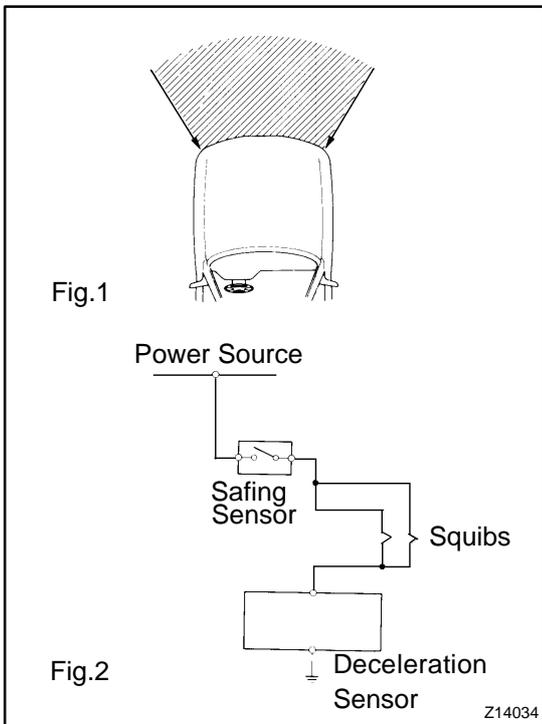

Fig.1
- (b) When the vehicle is involved in a frontal collision in the hatched area (Fig. 1) and the shock is larger than the predetermined level, the SRS is activated automatically. A safing sensor is designed to go on at a smaller deceleration rate than the airbag sensor. As illustrated in Fig. 2, ignition is caused when current flows to the squib, which happens when a safing sensor and the deceleration sensor go on simultaneously. When a deceleration force acts on the sensors, 2 squibs in the driver airbag and front passenger airbag ignite and generate gas. The gas discharging into the driver airbag and front passenger airbag rapidly increases the pressure inside the bags, breaking open the horn button assy and instrument panel. Bag inflation then ends, and the bags deflate as the gas is discharged through discharge holes at the bag's rear or side.